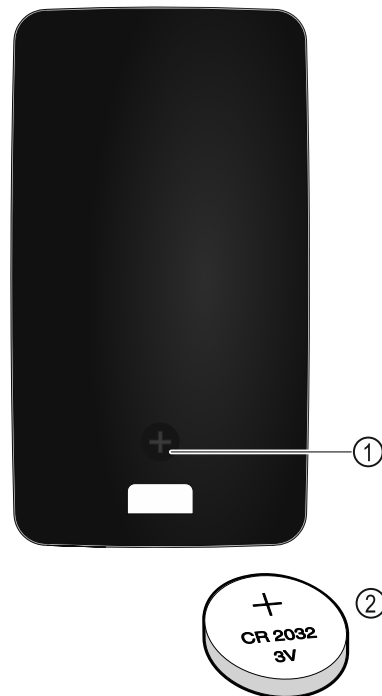

Fig. 223
The remote control is powered by a 3V CR 2032 battery Fig. 223 (2) available from specialist retailers.
- Undo screw Fig. 223 (1) on the back of the remote control.